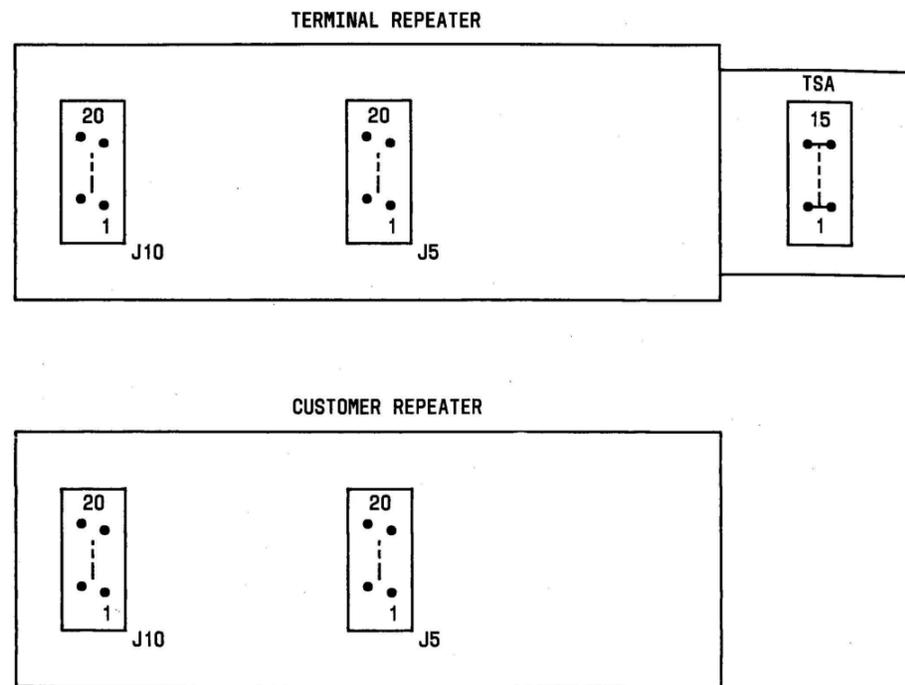

Fig. 4—Power Selector Connectors at Rear of Repeaters
- (3) Measure -48 dc source voltage at locally powered repeater. See Fig. 4 and Table A.
- (4) Make preliminary adjustments on CPs. See Table B.
- (5) Insert Circuit Packs (CPs) per Table C.
- (6) Measure dc bias voltage at CP test points. See Table D.
- (7) Proceed to Part 4, TEST FOR TIP AND RING TURNOVER ON LOOP.
- (1) Measure -48 dc source voltage. See Fig. 4 and Table A.
- (2) Make preliminary adjustments on CPs. See Table B.
- (3) Insert CPs per Table C.
- (4) Measure dc bias voltage at CP test points. See Table D.
- (5) Proceed to Part 4, TEST FOR TIP AND RING TURNOVER ON LOOP.
- (1) Measure -48 dc source voltage per Fig. 4 and Table A.
- (2) Make preliminary adjustments on CPs per Table B.
- (4) Measure dc bias voltage at CP test points per Table D.